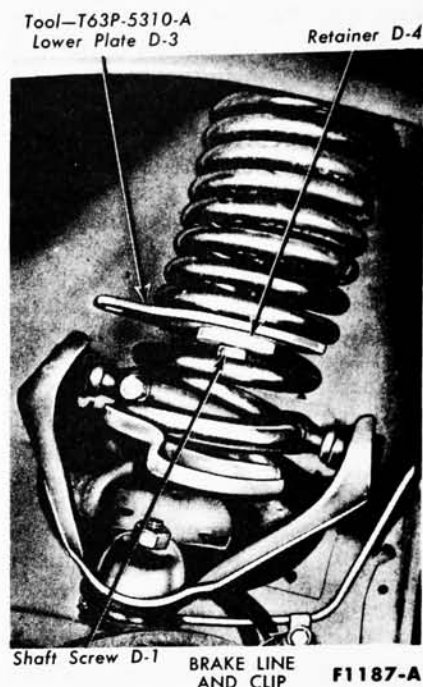

FIG. 7—Compressing or Releasing Spring—Lower View
4. From under the car, place the tool lower plate under the fourth coil from the bottom. Secure the plate to the coil by installing the tool retainer in the groove in the shaft screw (Fig. 7).
9. Fully release the spring tension by turning the tool shaft nut counterclockwise (Fig. 6). Be sure to hold the lower plate of the tool with the 1/2-inch square drive flex-handle wrench so that the tool will not turn or snap loose during spring release (Fig. 7).